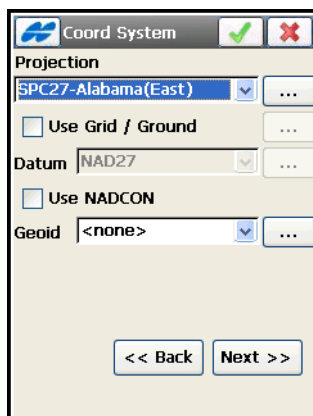

Figure 2-6. Coordinate System
- **Next** – opens the **Coordinate Systems** screen (Figure 2-6 on page 2-6).
The *Coordinate System* screen (Figure 2-6) contains coordinate system information for the new job.